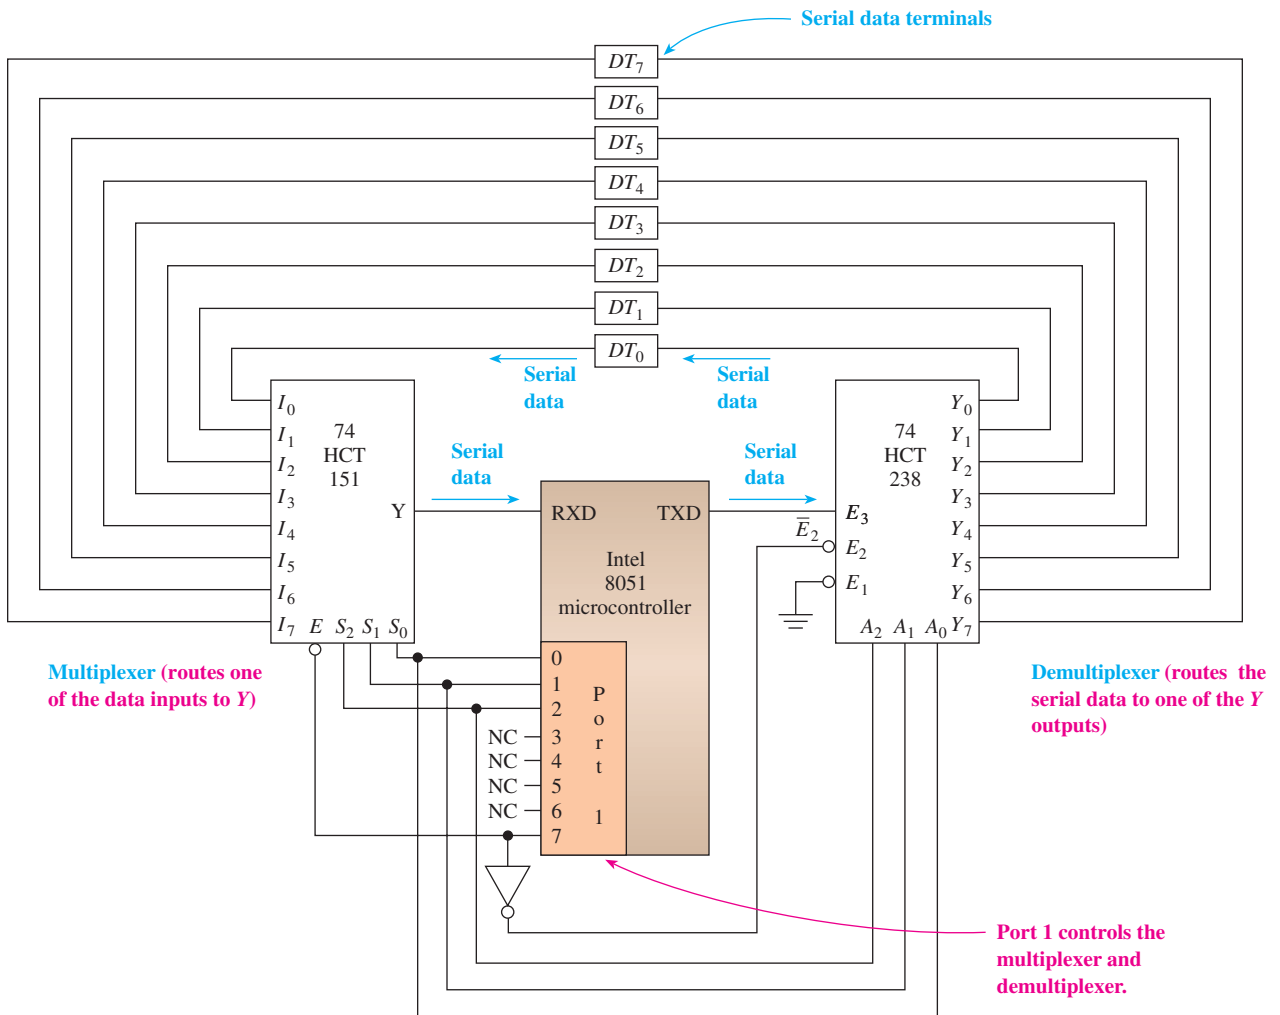

Figure 60 Using a multiplexer, demultiplexer, and microcontroller to provide communication capability to several serial data terminals.
Multiplexing and demultiplexing are very useful for data communication between a computer system and serial data terminals. The advantage is that only one serial receive line and one serial transmit line are required by the computer to communicate with several data terminals. A typical configuration is shown in Figure 60.
Determine the correct hex codes that must be output to Port 1 in Figure 60 to accomplish the following action: (a) read from data terminal 3 (DT3) and (b) write to data terminal 6 (DT6).
24. The circuit of Figure 60 does not allow for both transmitting and receiving serial data simultaneously. True or false?
25. In Figure 60, the 74HCT151 could be switched with the 74HCT238 and still work properly. True or false?